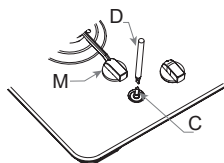

Fig. 10
2. Remove the control knobs “M” (Fig. 10).
3. Insert a small screwdriver “D” (Fig. 10) into the hole at the top of the tap “C” and turn the adjustment screw left or right until the flame of the burner is conveniently regulated to the low position.